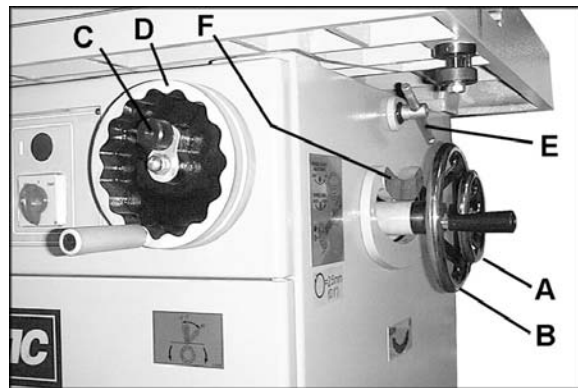

Figure 22
1. Loosen handwheel lock (A, Figure 22) and turn handwheel (B, Figure 22) counterclockwise to raise the spindle; clockwise to lower the spindle.
2. Re-tighten lock (A, Figure 22).
1. Loosen the knob (C, Figure 22) on the front handwheel (D, Figure 22).
2. Loosen the two locking handles (E, Figure 22) on both sides of the machine.
3. Turn the handwheel (D, Figure 22) to the required tilting angle shown on the indicator (F, Figure 22).
4. Tighten the knob (C, Figure 22) and locking handles (E, Figure 22).